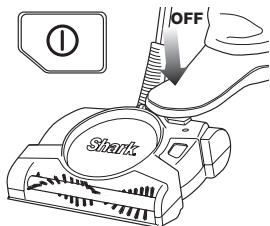

Fig. 3
- 3** Using your foot, press the power button and push the unit forward over the surface you wish to clean. (Fig. 3)
- 1 Always make sure that the unit is turned off. (Fig. 3)